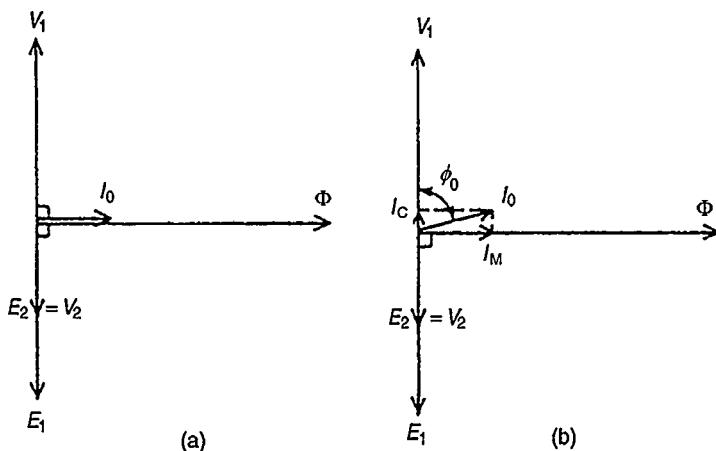

Figure 21.2
the primary winding takes a small no-load current  $I_0$  and since, with losses neglected, the primary winding is a pure inductor, this current lags the applied voltage  $V_1$  by 90°. In the phasor diagram assuming no losses, shown in Fig. 21.2(a), current  $I_0$  produces the flux and is drawn in phase with the flux. The primary induced e.m.f.  $E_1$  is in phase opposition to  $V_1$  (by Lenz's law) and is shown 180° out of phase with  $V_1$  and equal in magnitude. The secondary induced e.m.f. is shown for a 2:1 turns ratio transformer.
A no-load phasor diagram for a practical transformer is shown in Fig. 21.2(b). If current flows then losses will occur. When losses are considered then the no-load current  $I_0$  is the phasor sum of two components—**(i)  $I_M$ , the magnetising component**, in phase with the flux, and **(ii)  $I_C$ , the core loss component** (supplying the hysteresis and eddy current losses). From Fig. 21.2(b):
- (c) From the right-angled triangle in Fig. 21.2(b) and using Pythagoras' theorem,  $I_0^2 = I_c^2 + I_M^2$  from which, magnetising current,